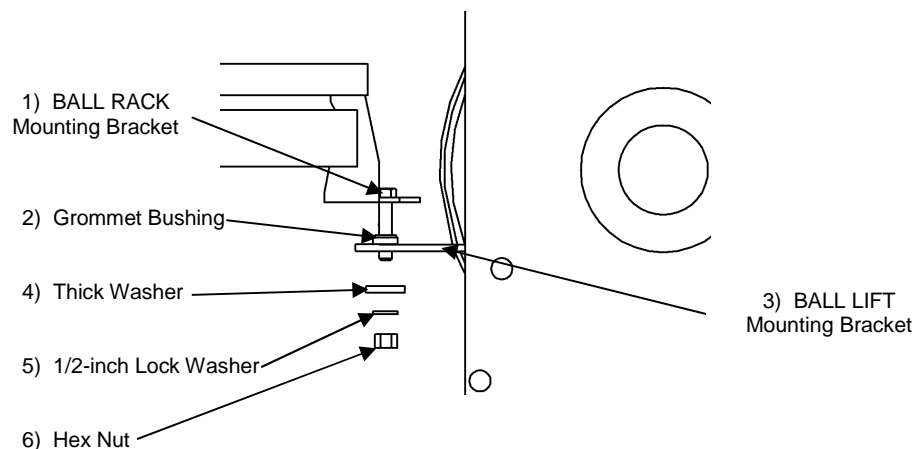

Figure 9, Ball Lift to Ball Rack Attachment
7. Install the ball rack to the Ball Lift by completing the following steps and referring to Figure 9.
- b) Insert the hex cap screw/stud of the ball rack through the grommet bushing and in the Ball Lift's mounting bracket. Attach the hardware you set aside in the previous steps in the order shown in Figure 9. Attach the hex nut (844-073-002, from the Hardware Bag) just enough to stay on the screw/stud.